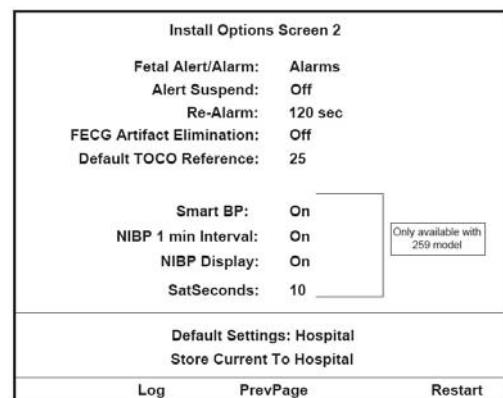

Figure 2-11
9. To store the changed configuration settings as the monitor default settings, use the Trim Knob Control to select *Store Current to Hospital* option on the *Install Options Screen 2* screen. Confirm the Default Setting option changes to *Hospital* ("Figure 2-11").